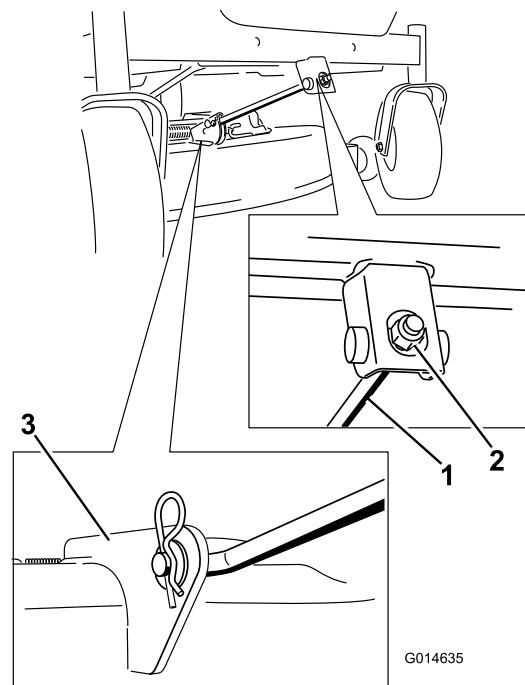

Figure 72
5. Remove the hairpin cotter from the front support rod, and remove the rod from the deck bracket (Figure 72).
- Attach the front support rod to the mower deck with the clevis pin and hairpin cotter (Figure 72).